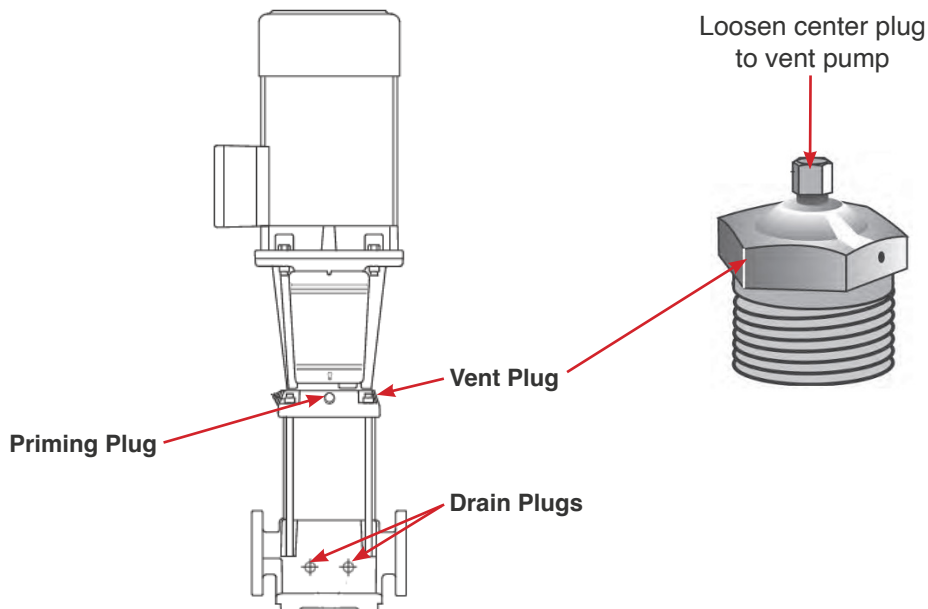

Fig. 4.1 - 1 - Position of pump plugs
2. Close the pump isolating valve(s) and open the priming plug located on the on the pump head on the front side of the pump (Fig. 4.1 - 1).